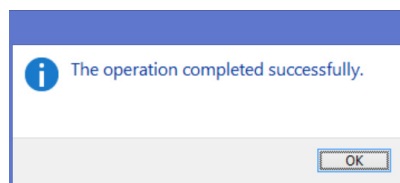

Figure 5. RAA489110 Successful Driver Installation
3. The message in Figure 5 appears when the driver is successfully installed.